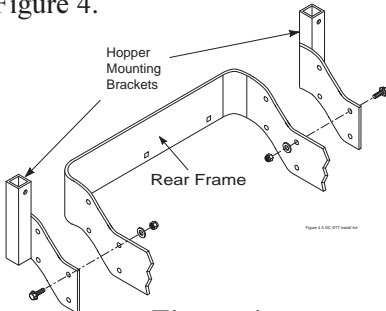

Figure 4
11. Install the hopper mounting brackets to the outside of the frame on the rear of the machine. See Figure 4.